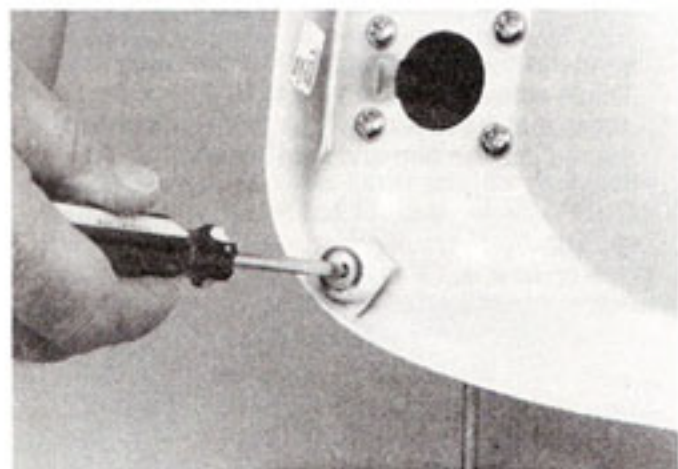

Fig. 96
- K. If the base feet are worn, replace them. To replace the feet, unscrew the #8-32 x  $\frac{1}{2}$ " round head screws and remove the old feet (Fig. 96). Place the screws in the new feet and screw the feet to the base. Do not tighten so much as to push screw through the rubber.